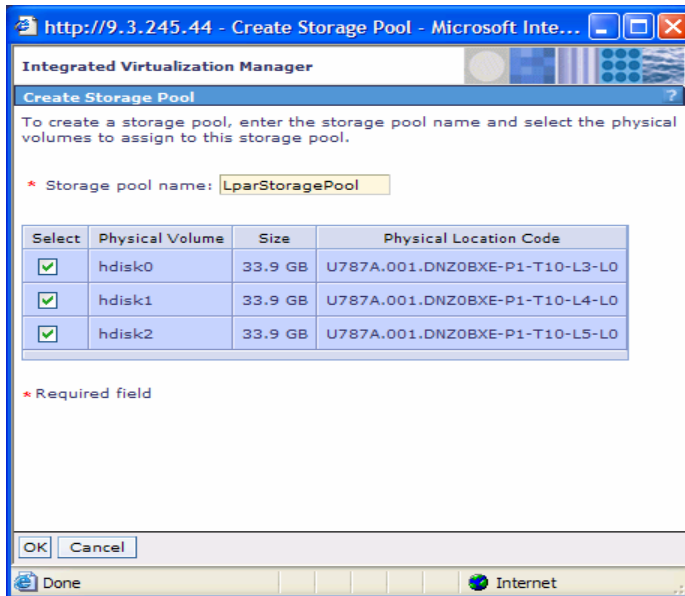

Figure 40. Selecting physical disk volumes to assign to a partition
2. In this example, three disks (hdisk0, hdisk1 and hdisk2) make up a storage pool called “LparStoragePool.” In the Create Storage Pool pop-up window, select these three disks (see Figure 40). Then, click **OK**.